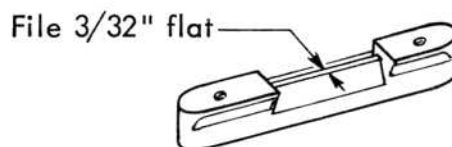

Fig. 13. Bearing expander with the "V" filed flat.
2. Remove the bearing expander and file the "V" of expander as shown in Fig. 13. Also trim the expander wick about 1/8".